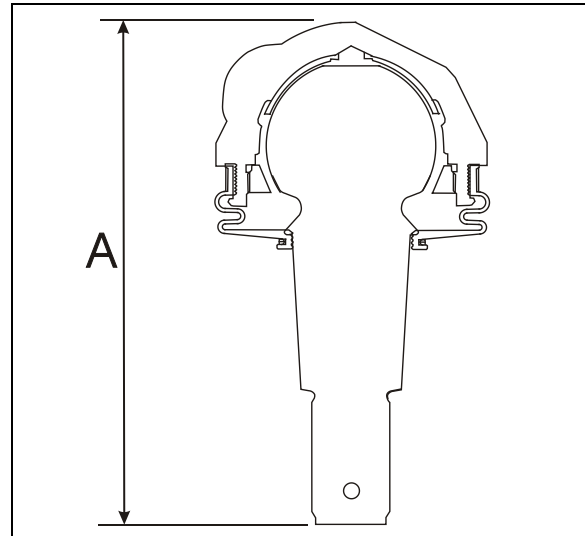

FIGURE 30: UPPER A-ARM CENTRAL BALL JOINT 16116
- Using a caliper, measure dimension A on figure 30.